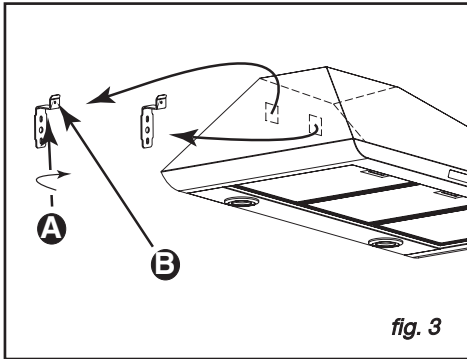

fig. 3
- Hang the suction hood by its hooks (fig. 3).
- Adjust the height and level by moving the clamping screws (fig. 3) of the supports (the top screw for horizontal fit and the bottom screw for fitting to the wall).